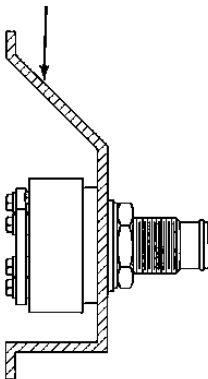

FIG. 8 Side Mounted Recess.
1.6.2 When recessing the unit into the side of the hull for generator sets and/or equipment operating at dockside, angle the top of the recess box to allow convection current over the cooler. See Figure 8.